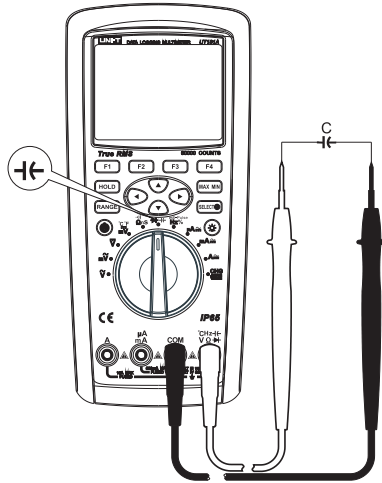

Figure 9
- 2) Set the rotary switch to the measurement M , press the key SELECT to select capacitance measurement. Connect the test leads to both ends of the measured capacitance as shown in Figure 9.